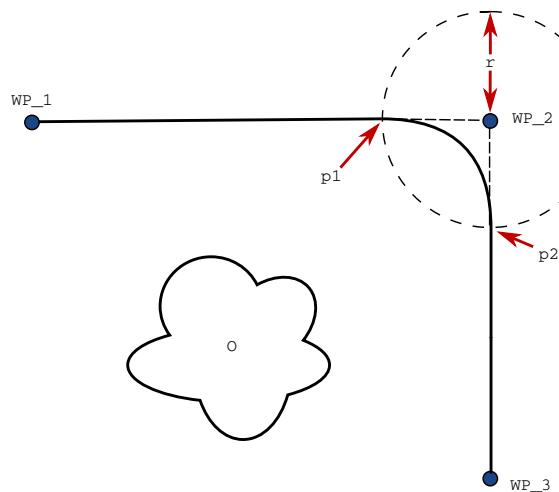

Figure 14.3: Blend over `WP_2` with radius  $r$ , initial blend position at  $p_1$  and final blend position at  $p_2$ .  $\circ$  is an obstacle.
**Blend parameters** Apart from the waypoints, multiple parameters will influence the blend trajectory (see figure 14.3):